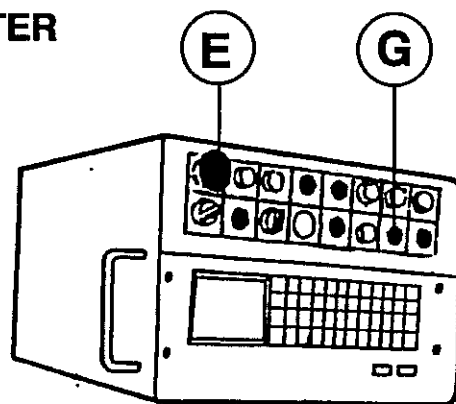

Fig.3.8
It is necessary to: press emergency button (E fig.3.8).
- 2- Rotate the blade lifting selector (G fig.3.8) clockwise.
- 13- Turn selector (G fig.3.8) to the left for lowering the blade if it is not necessary to fit the scoring saw.